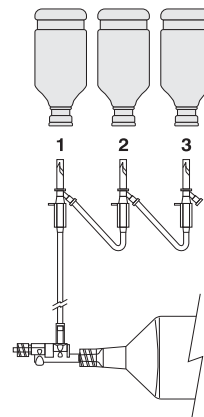

Figure 1
- Remove the protective cover from spike #1, (see Figure 1), and insert it into a contrast bottle.
- Remove the protective cover from spike #2, (see Figure 1), and insert it into a contrast bottle.
- Remove the protective cover from spike #3, (see Figure 1), and insert it into a contrast bottle.